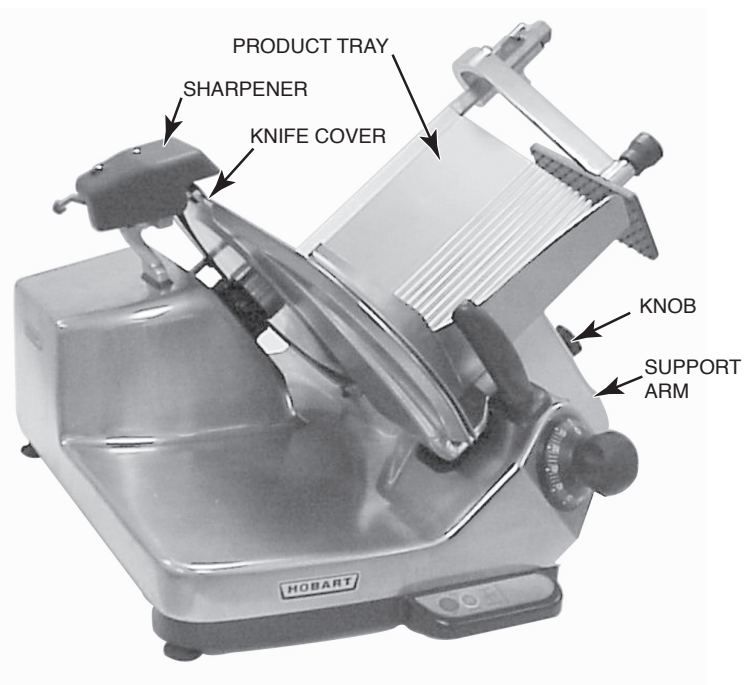

Fig. 28
- Return the PRODUCT TRAY to the GAUGE PLATE by tilting it to the left. Turn the KNOB on the SUPPORT ARM loosely in either direction until it moves inward, then turn it clockwise until snug (Fig.28).